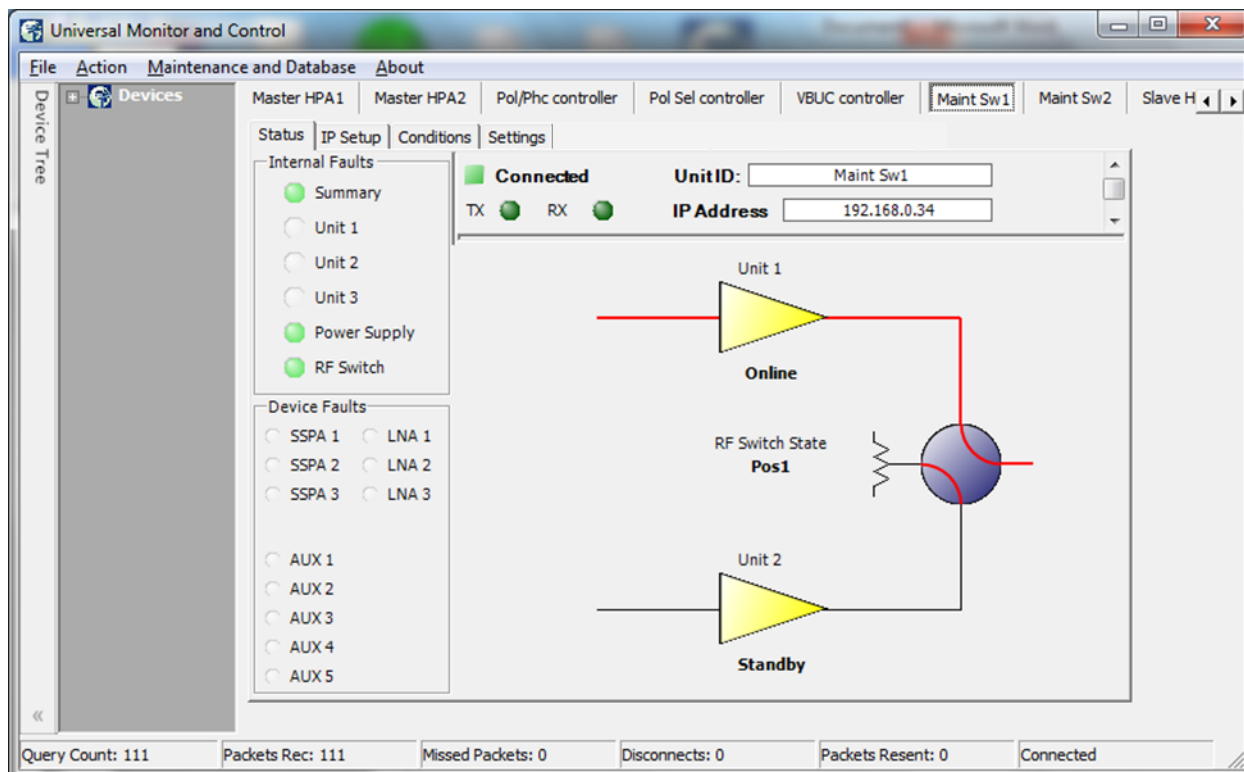

Figure 7-4: Status Window, Maintenance Switch Controllers
7. Click on the [Create] button. The Status window for the newly added unit will appear. See **Figure 7-4**.
The Status Window for the Maintenance Switch Controller shows the fault states for the controller's internal power supplies and the system's switch positions. See **Figure 7-4**.